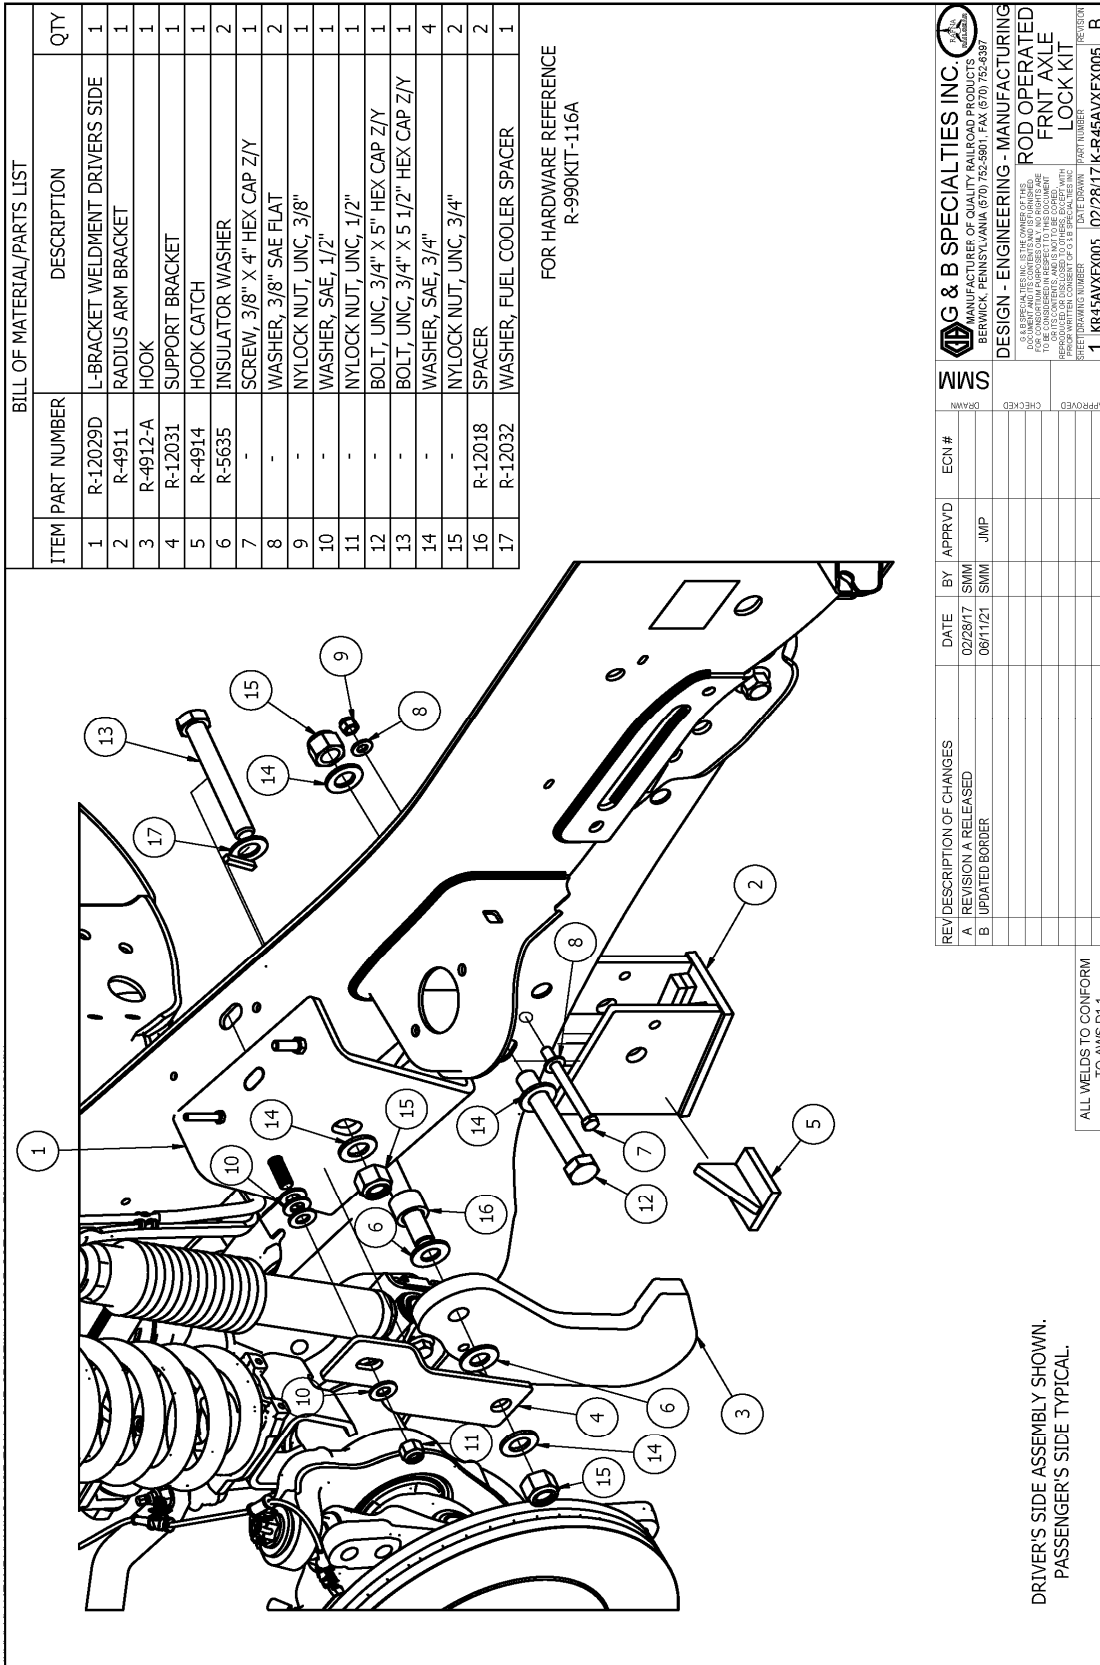

Figure 1
3. Find the slotted hole on top of the frame. Take bracket R-12029D (Driver's Side) and align the locating slug on the bracket with the slot in the frame. When done correctly, slug should drop into the slot on the frame and the bracket sit against the top and outer surfaces of the frame. See (Fig. 1).
4. With the bracket on the frame, center punch the slot on the bracket. Remove bracket and drill a $49/64$ " hole. Hole should line up with existing square hole where we removed the clip from earlier. Check with supplied $3/4$ " bolt to ensure bolt sits parallel and is not angled. Hole may need to be reamed to ensure this. The hole on the outside of the frame can also be obtained by drilling the square hole on the inside of the frame through to the outside. The bracket is slotted for this reason. Just ensure bolt sits straight and not on an angle. Once hole is in place and bolt sits parallel, re-install fuel cooler leaving out the clip we removed. Install bracket to frame, using R-12032 and $3/4$ " hardware as show in Fig. 1 & 2. See Fig. 8 for proper install reference. (Passenger side will need the hole drilled through to the inside of the frame. There are no holes present on the passenger side.)
5. On the radius arm you will see a slotted hole with a hole next to it. Take R-4911 and place it on the radius arm with the larger hole in the bracket aligned with the slot, positioned closest to the hole side of the slot. See (Fig.6) Place $3/4$ " bolt that was supplied through the bracket and radius arm to help hold the bracket, and with the bracket against the bottom of the radius arm, mark the center of the small hole of the bracket on frame. You may also mark the center of the hole on the inside of the frame. Drill a $13/32$ " hole through the radius arm, or on the inside and outside where marked. With hole drilled, install bracket using the $3/4$ " and $3/8$ " hardware supplied in kit. See (Fig.1 & 3) for reference. Ensure not to over-tighten bolts and deform the radius arm.